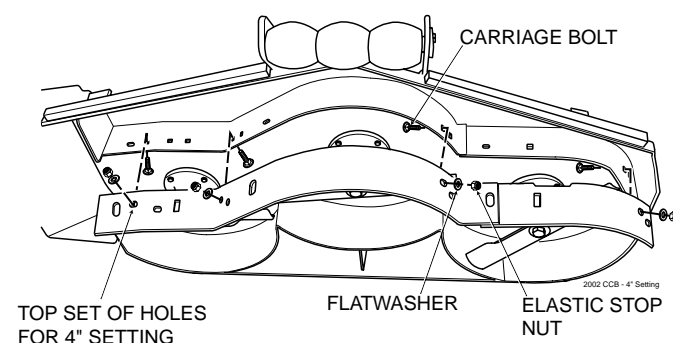

Figure 6-11. 4" Custom Cut Baffle Position
- C. 4" Position - baffle is installed using the top set of holes on the Custom Cut Baffle. (See Figure 6.11). Placing the baffle in the 4" setting will enhance fall cutting (leaf pickup) and reduce cutter deck "blowout".